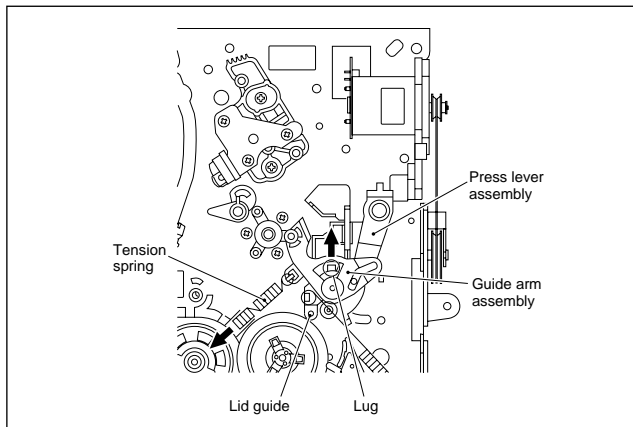

Fig. 2-2-5a
- (1) Remove the spring and expand the lug of the lid guide in the arrow-indicated direction. Then remove the guide arm assembly by pulling it up.
- (2) Remove the press lever assembly by pulling it up. (See Fig.2-2-5a.)